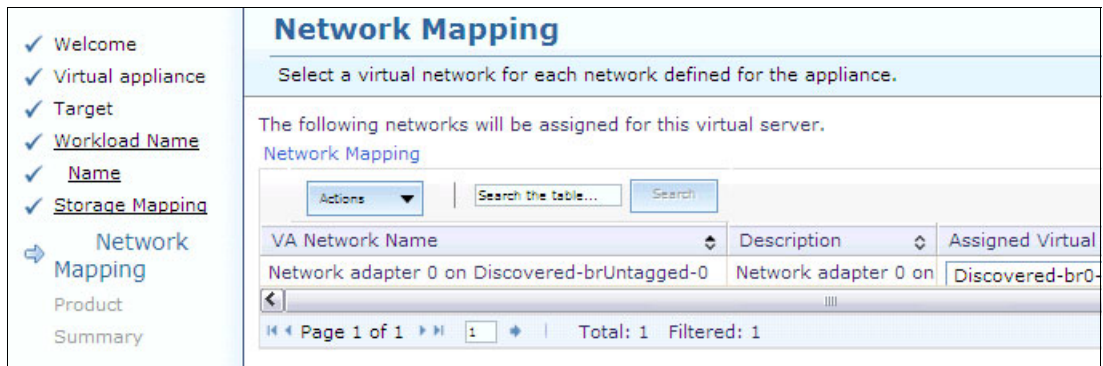

Figure 9-133 Network Mapping window
- Select the virtual network adapter to create a virtual Ethernet adapter on your virtual server, as shown in Figure 9-133, then click **Next**.